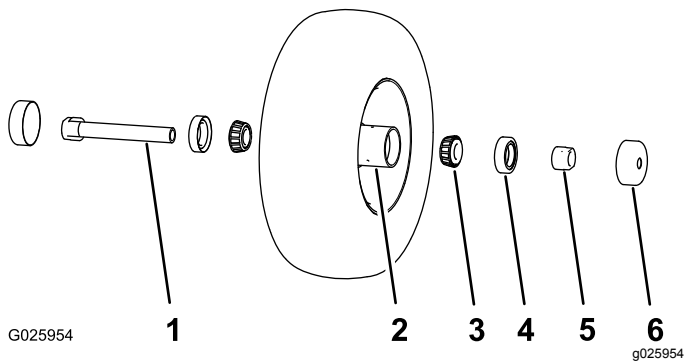

Figure 34
1. Remove the 2 seal guards from the wheel hub (Figure 34).
- Remove 1 of the spacer nuts from the axle assembly in the caster wheel (Figure 34).
Note: Note that thread-locking compound has been applied to lock the spacer nuts to the axle (Figure 34).
- Remove the axle (with the other spacer nut still assembled to it) from the caster-wheel assembly (Figure 34).
- Pry out both bearing seals (Figure 34).
- Remove both bearings and inspect them for wear or damage (Figure 34).
- Install 1 bearing into the hub of the wheel (Figure 34).
- Install the bearing seal into the hub at the bearing (Figure 34).
- Thread the axle nut, with the wrench flats facing outward, onto the end of the axle that is prepared with thread-locking compound (Figure 34).
- Insert the assembled nut and axle into the wheel at the side of the wheel with the new seal and bearing (Figure 34).
- Install the other bearing and new seal into the wheel (Figure 34).
- Install the seal guards over the wheel hub (Figure 34).